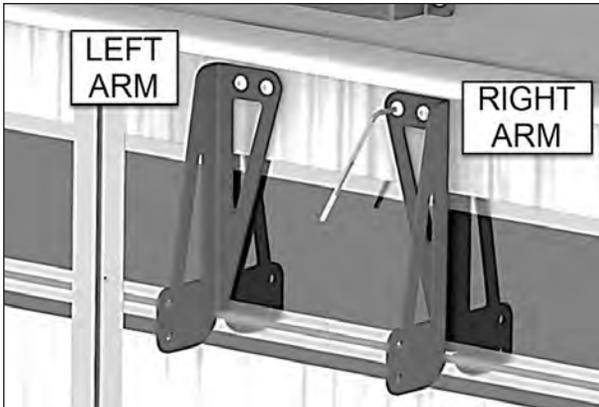

FIGURE 90: LONG ARM INSTALLATION
- For 58" high spas, screw both right and left long arms to the spa with 1/4-20 x 3/4" button head socket cap screws using the provided 5/32" L hex key on hex standoff for all four posts see Figure 90.